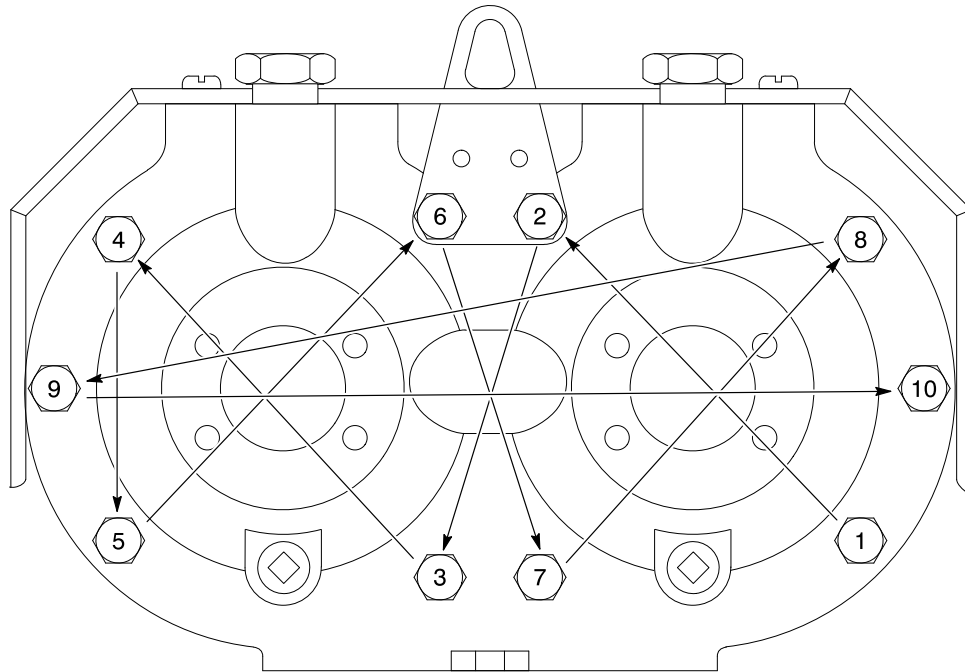

Figure 6-8 Air Motor Screw Torquing Pattern
10. Tighten the stud nuts evenly by alternating turns to draw the upper head and solvent chamber together until you can thread the screws (8) into the upper head.
12. Remove the spring removal studs (10) and install the remaining two lock washers and screws.
13. See Figure 6-8 on page 6-14 for the torquing pattern. Tighten all screws to 41–47 N•m (30–35 ft-lb).